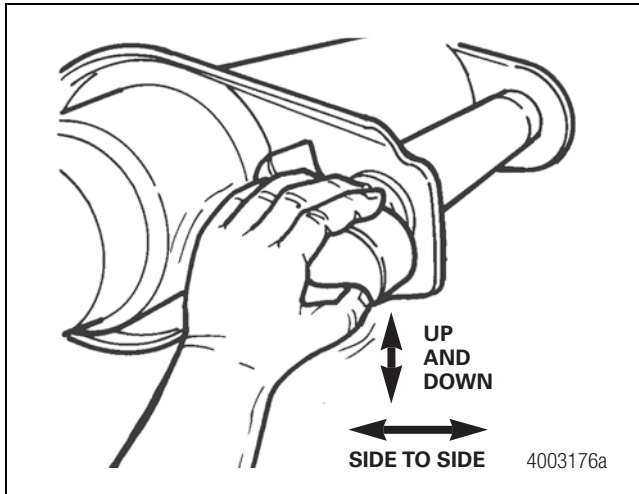

Figure 4.3
- Check the up-and-down and side-to-side end play of the camshaft. If total movement is more than 0.030-inch (0.76 mm) in either direction, replace the bushings or camshaft as detailed in Section 12. Figure 4.3.